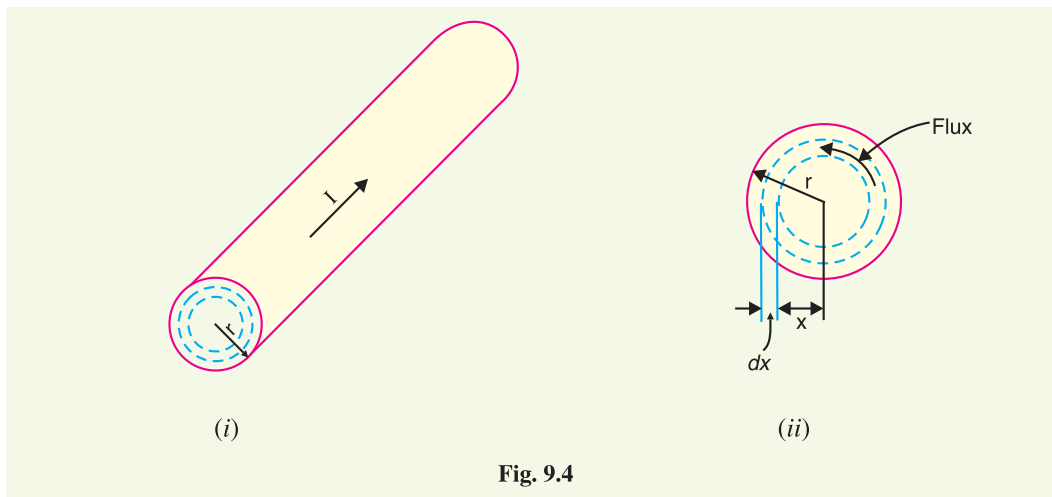

Fig. 9.4
**1. Flux linkages due to a single current carrying conductor.** Consider a long straight cylindrical conductor of radius  $r$  metres and carrying a current  $I$  amperes (r.m.s.) as shown in Fig. 9.4 (i). This current will set up magnetic field. The magnetic lines of force will exist inside the conductor as well as outside the conductor. Both these fluxes will contribute to the inductance of the conductor.
(i) **Flux linkages due to internal flux.** Refer to Fig. 9.4 (ii) where the X-section of the conductor is shown magnified for clarity. The magnetic field intensity at a point  $x$  metres from the centre is given by;